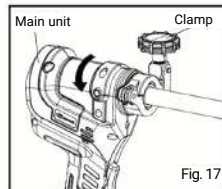

Fig. 17
(3) Removing the tube
- ① Detach the clamp from the main unit by reversing the installation steps. (Fig.17)